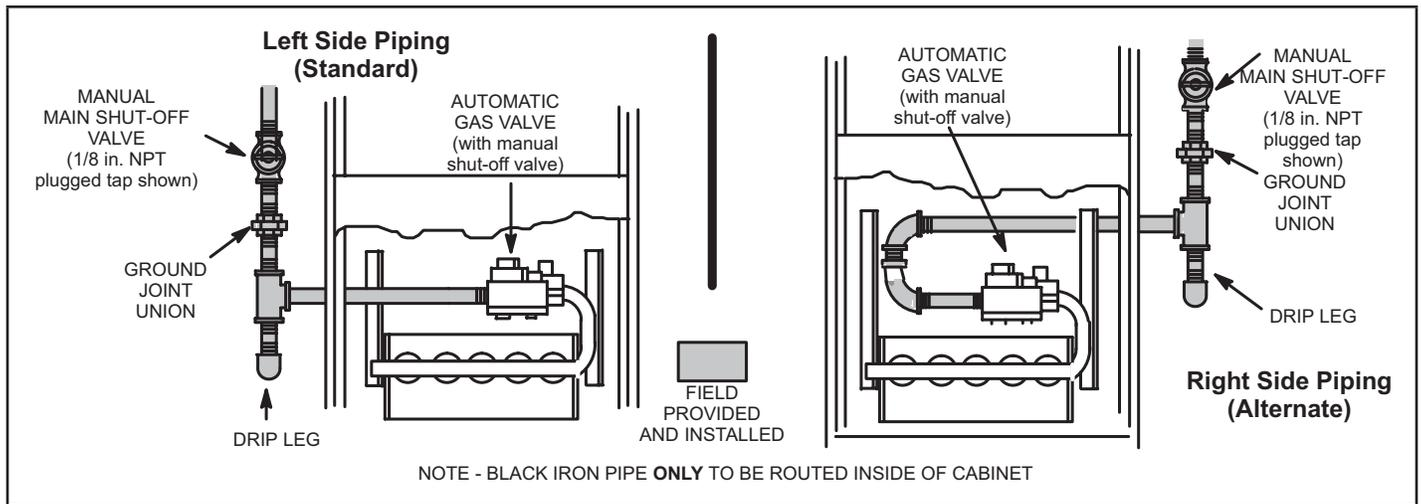

FIGURE 50
- 1 - Gas piping may be routed into the unit through either the left- or right-hand side. Supply piping enters into the gas valve from the side of the valve as shown in FIGURE 50. The maximum torque is 800 in lbs and minimum torque is 350 in lbs when attaching the gas piping to the gas valve.
- 3 - Gas piping must not run in or through air ducts, clothes chutes, chimneys or gas vents, dumb waiters or elevator shafts. Center gas line through piping hole. Gas line should not touch side of unit. See FIGURE 50.